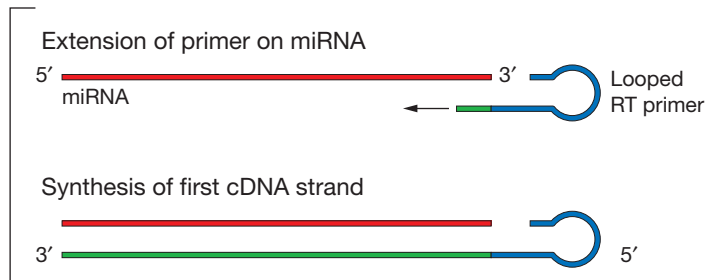

Figure 1 RT Reaction
Reverse Transcription Step Figure 1 shows the reverse transcription (RT) step. In this step, cDNA is reverse transcribed from total RNA samples. The reverse transcription uses specific miRNA primers and reagents from the Megaplex Primers and the TaqMan® MicroRNA Reverse Transcription Kit.